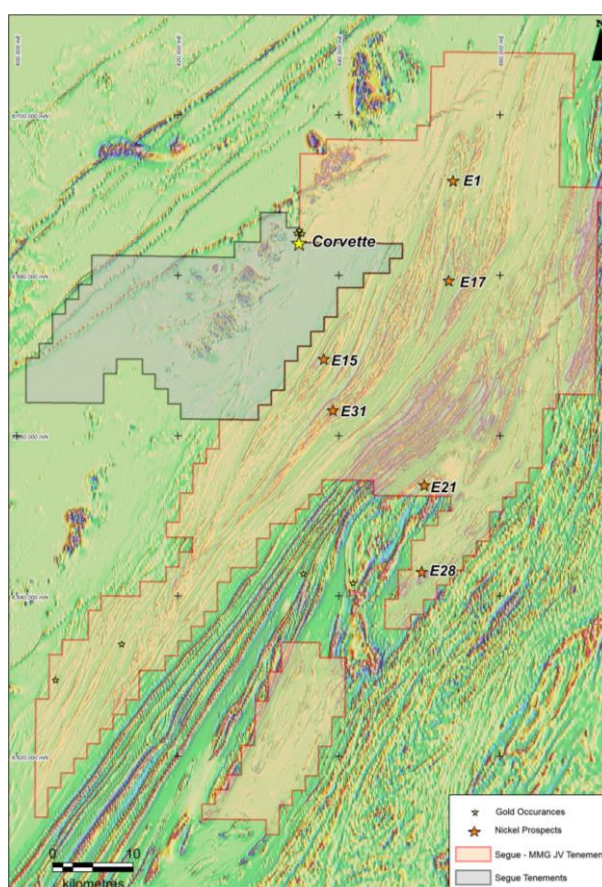

Figure 2: Plumridge Nickel Joint Venture tenements over regional magnetics
The Plumridge Nickel Joint Venture (**Joint Venture**) allows MMG to earn up to a 70% interest by funding up to \$14 million of exploration covering 2,250km² of exploration licences across the Fraser Range before 31 December 2019. Segue will retain a 100% interest in three (3) exploration licences which include the Corvette gold prospect and Salt Creek Intrusive Complex (**Figure 2**).